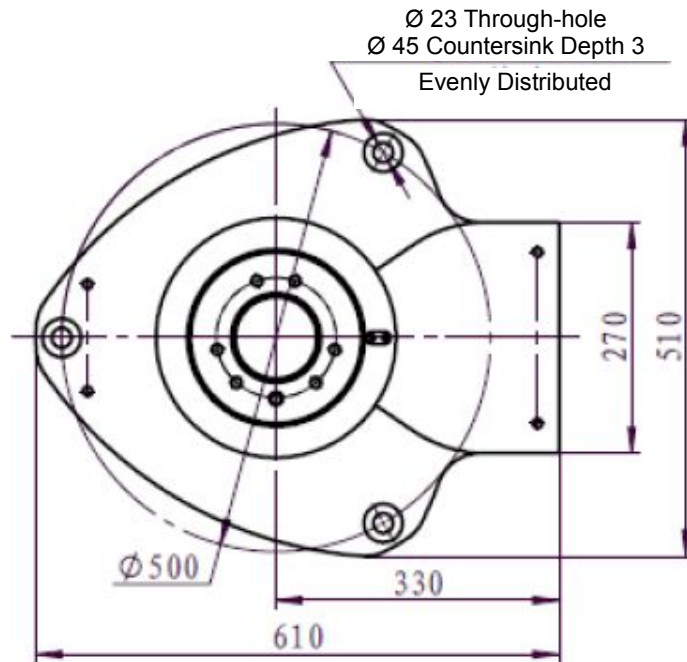

Figure 3-4 Base Mounting Hole Dimensions of SR18/SR18L8/SR25 Robot
1. The base mounting hole dimensions of SR20/ SR18L8/ SR25 robot are shown in fig.3-4.